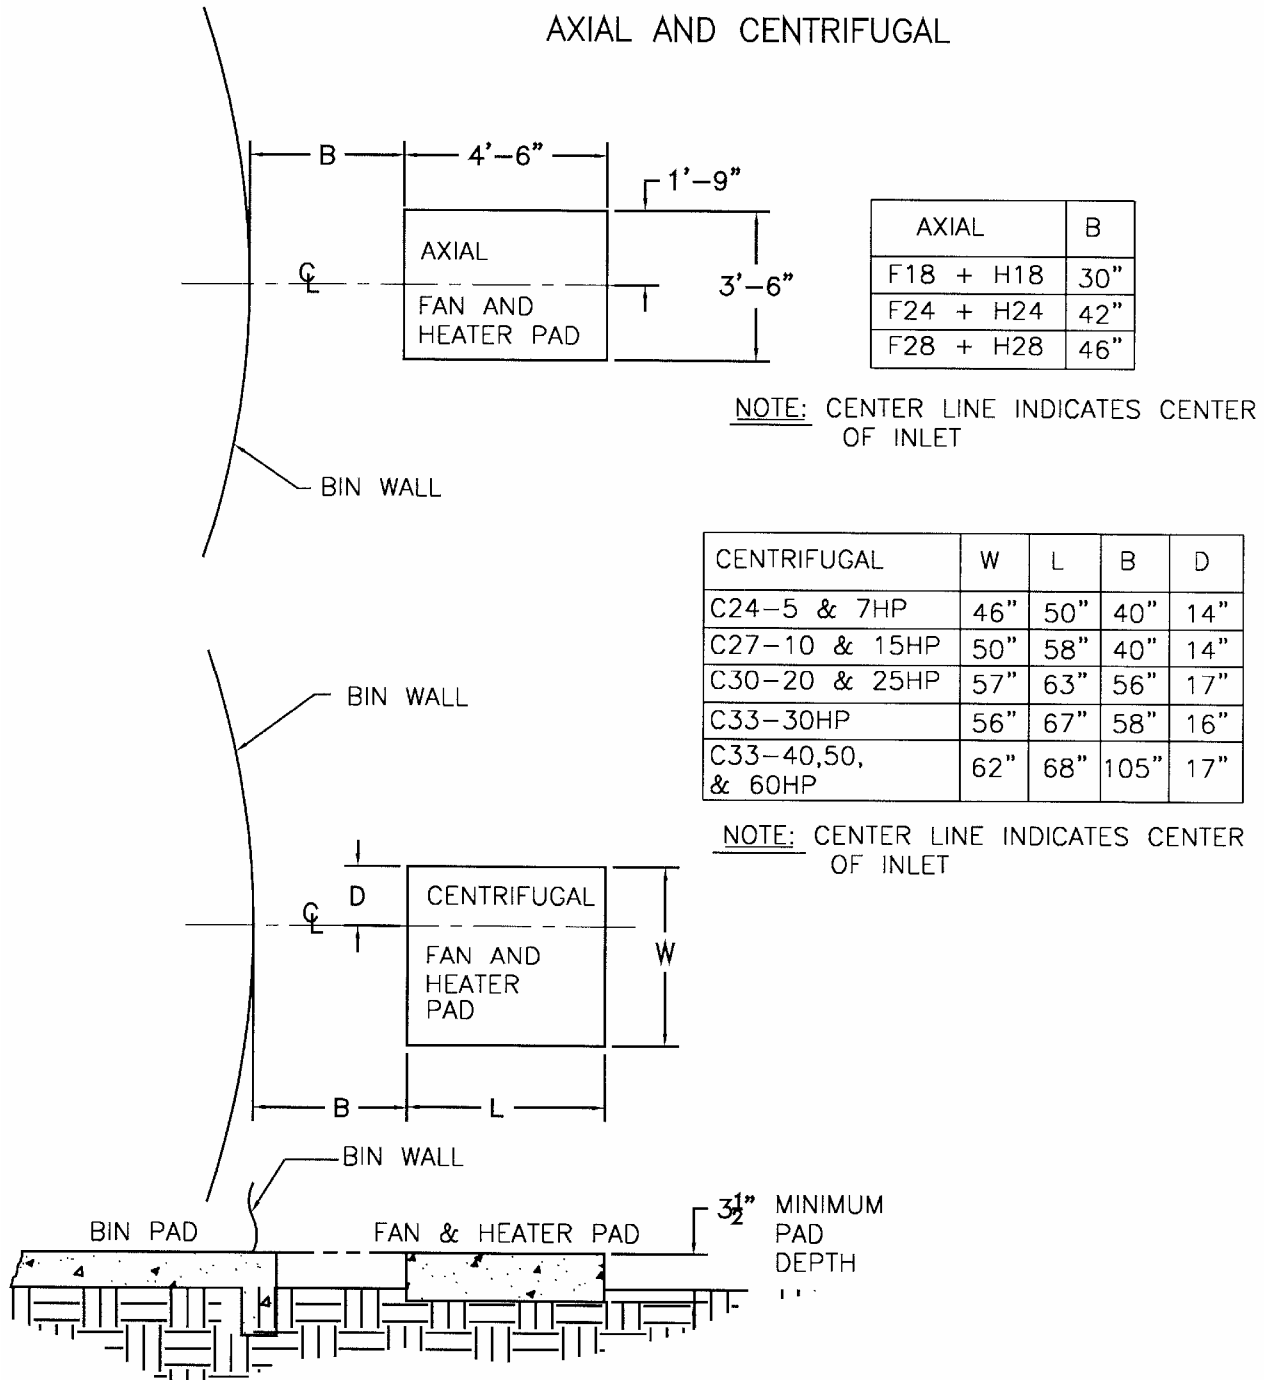

Figure 6. Fan and Heater Mounting Pads
- C. For proper operation of heater, the fan and heater are to be mounted on a level pad. The pad should be the same height as the concrete floor. The size of the pad should be as indicated in **Figure 6** on page 17.